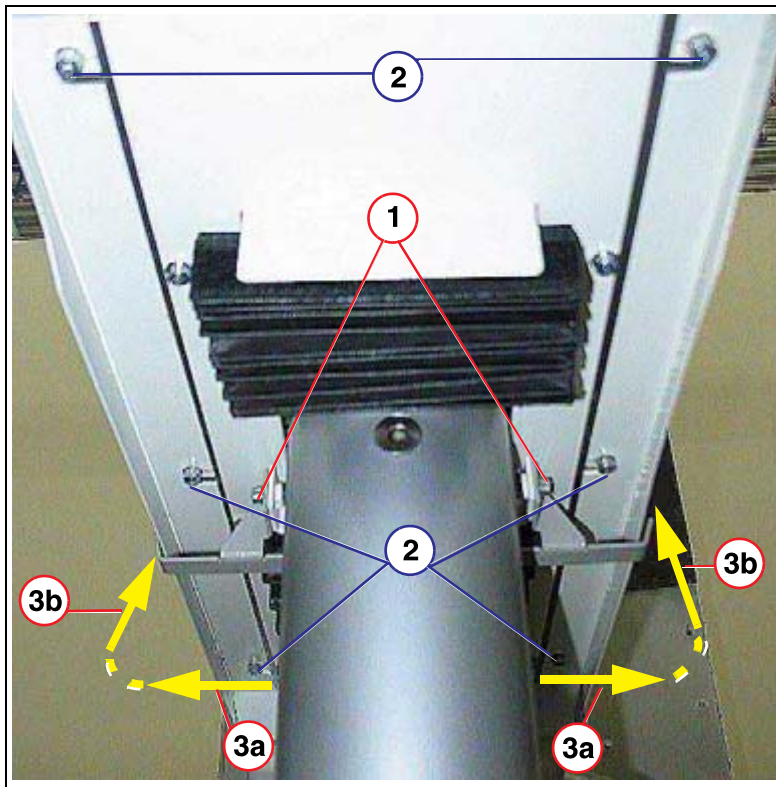
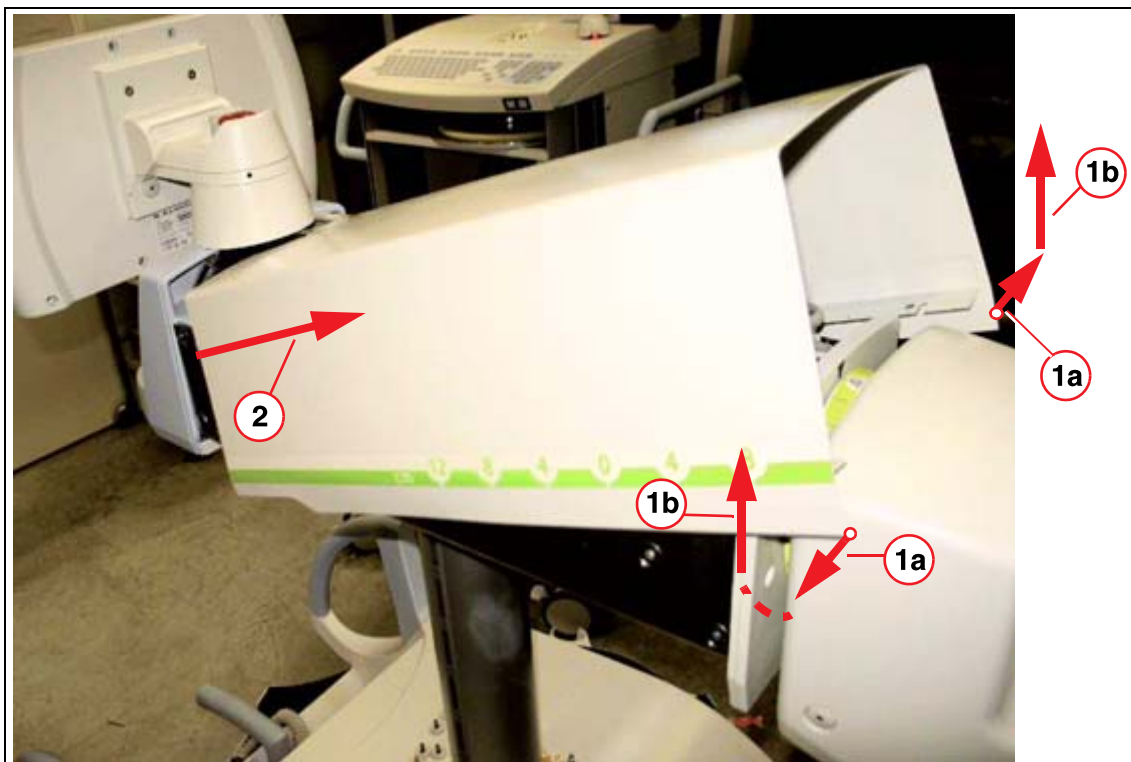

Fig. 5: cover\_1
Fig. 6: Cover\_2
1. Unscrew the 2 screws (1/Fig. 5 / p. 18).
2. Unscrew the 6 screws (2/Fig. 5 / p. 18).
3. Expand the cover at the end (3a/Fig. 5 / p. 18) (1a/Fig. 6 / p. 19) and pull the cover upward (3b/Fig. 5 / p. 18) (1b/Fig. 6 / p. 19).
4. Pull out the cover as shown in (2/Fig. 6 / p. 19).